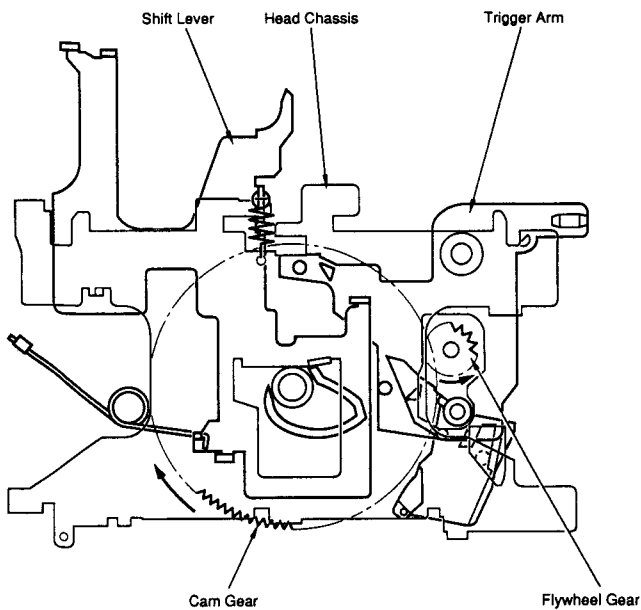

FIG. 4
4. The flywheel gear rotated by the main motor begins to engage the cam gear, and the cam gear further rotates, raising the shift lever and the head chassis. [Fig. 4, 5]